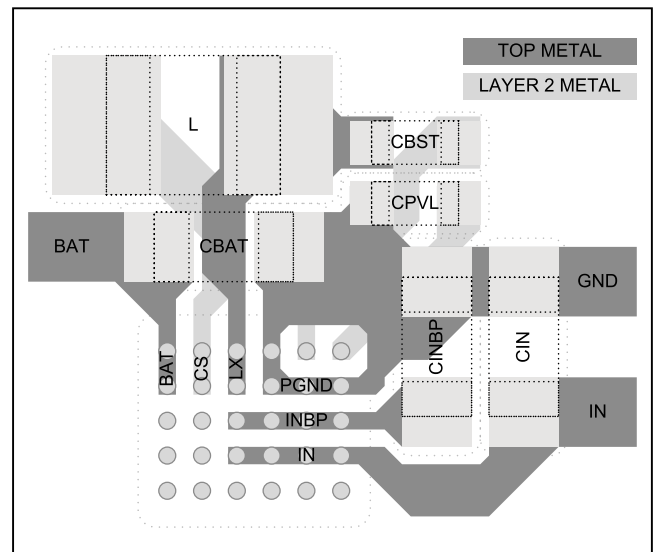
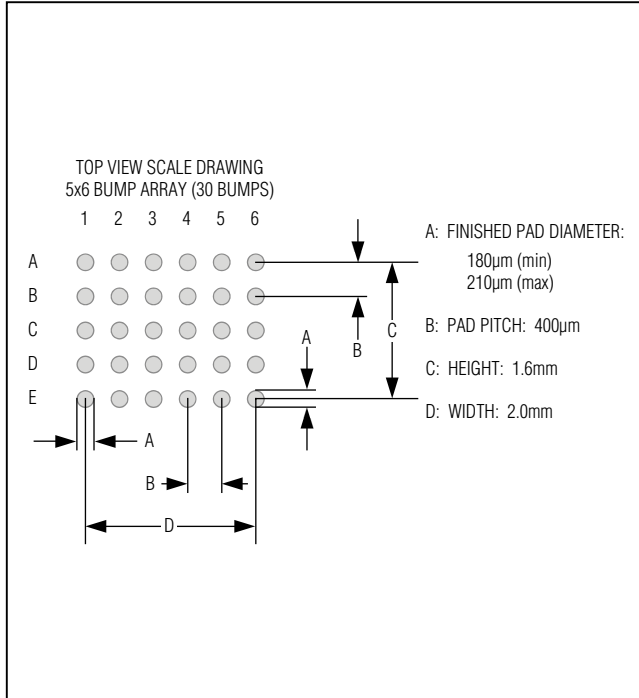
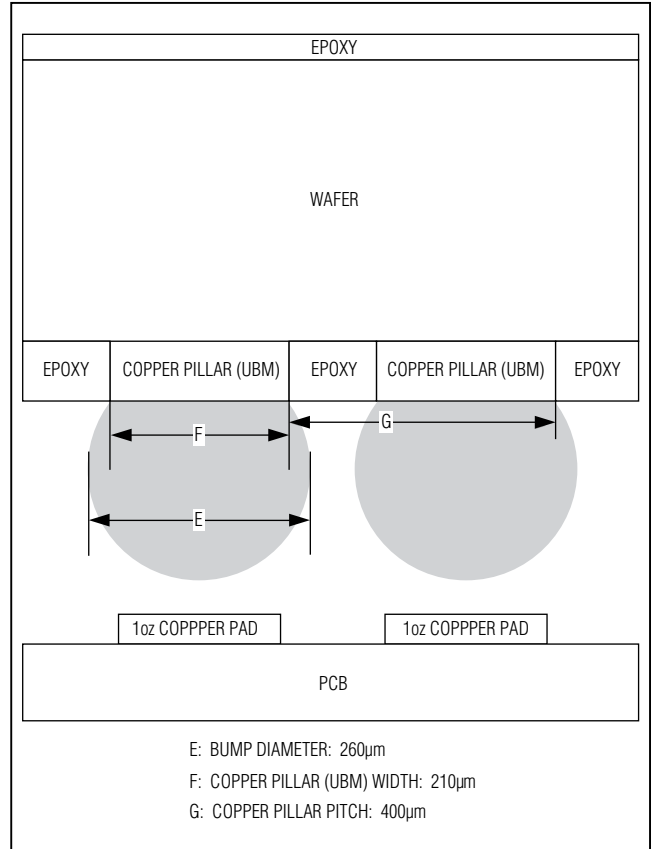

Figure 14. Power PCB Layout Example
Figure 15. Recommended Land Pattern
Figure 16. Bump Cross Section and Copper Pillar Detail
Figure 15 shows the recommended land pattern for the MAX8900\_. Figure 16 shows the cross section of the MAX8900\_'s bump with detail of the under-bump metal (UBM). The diameter of each pad in the land pattern is close to the diameter of the UBM. This land pattern to UBM relationship is important to get the proper reflow of each solder bump.
Careful printed circuit layout is important for minimizing ground bounce and noise. Figure 14 is an example layout of the critical power components for the MAX8900\_. The arrangement of the components that are not shown in Figure 14 is less critical. Refer to the MAX8900 Evaluation Kit for a complete PCB layout example. Use the following list of guidelines in addition to Application Note 1891: *Wafer-Level Packaging (WLP) and Its Applications* ([www.maximintegrated.com/ucsp](http://www.maximintegrated.com/ucsp)) to layout the MAX8900\_ PCB.
- 5) In Figure 14, the CS node is connected to the second layer of metal with vias. Use low-impedance vias that are capable of handling 1.5A of current. Also, keep the routing inductor current path on layer 2 just underneath the inductor current path on layer 1 to minimize impedance.
- 6) Both  $C_{BST}$  and  $C_{PVL}$  deliver current pulses for the MAX8900's MOSFET drivers. These components should be placed as shown in Figure 14 to minimize parasitic impedance.
In Figure 14, many of the top layer bump pads are connected together in top metal. When connecting bumps together with top layer metal, the solder mask must define the pads from  $180\mu m$  to  $210\mu m$  as shown in Figure 15. When using solder mask defined pads, please double check the solder mask openings on the PCB Gerber files before ordering boards as some PCB layout tools have configuration settings that automatically oversize solder mask openings. Also, explain in the PCB fabrication notes that the solder mask is not to be modified. Occasionally, optimization tools are used at the PCB fabrication house that modify solder masks. Layouts that do not use solder mask defined pads are possible. When using these layouts, adhere to the recommendations A through G above.